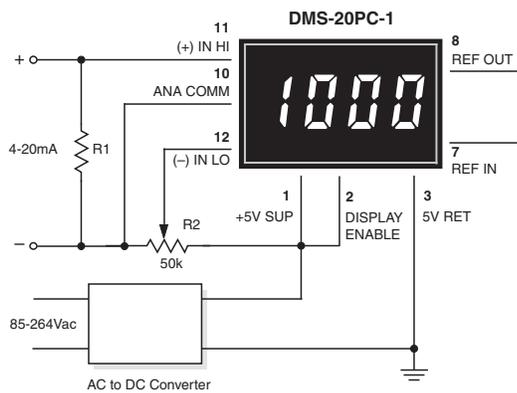

Figure 7. 4-to-20mA Current Loop Operation
5. Process Control (4-to-20mA) Measurements: In many common process-control applications, a 4-to-20mA current loop is used to transmit information. Because DMS-20PC meters have such high input impedance, a simple shunt resistor across the meter's input can be used to convert the loop current to a voltage. See Figure 7. The value of the shunt resistor is a function of the scaling requirements of the particular application and can be calculated using the following equation:
To calibrate the circuit of Figure 7, perform the following: